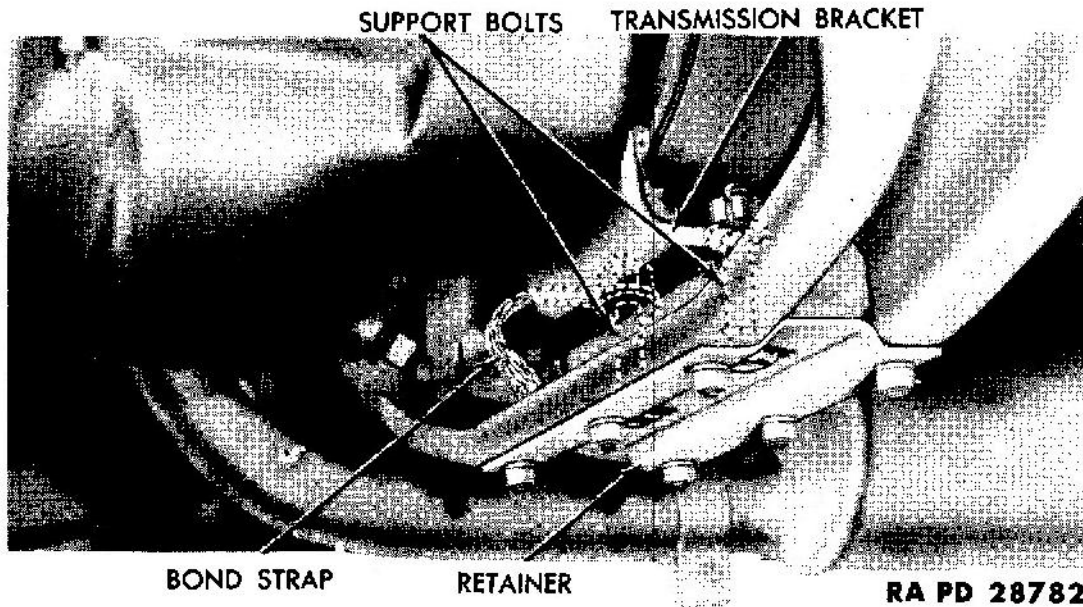

Figure 14 – Engine Rear Support
(2) **REAR SUPPORT REPLACEMENT** (fig. 14). Jack up rear of engine enough to remove any weight from the support. (Place a block of wood between the jack and engine before attempting to raise the engine.) Remove the two bolts which hold the transmission bracket to the support. Remove the six nuts which secure the retainer to the crossmember. Remove the bracket. To install, reverse the sequence of the steps of the removal procedure.